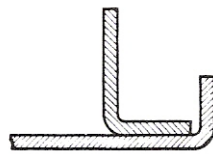
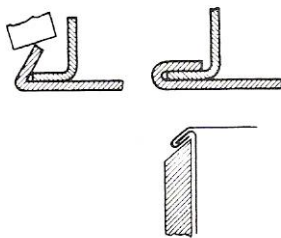

Figure 21 - Forming Analysis 4
Figure 22 - Forming Analysis 5
5. Insert the body of the container in the bottom piece, making sure it is a loose fit, as in Figure 21. Then using a paning-down hammer, after pinching the container at four diametrically opposite places, close down the flange gradually to prevent buckles and wrinkles forming. Ensure that the work is on a flat surface and turned constantly. The final paning down is done using the peen end of the hammer, or by inverting over a hatchet stake and closing (Figure 22). Care should be taken not to mark the body.